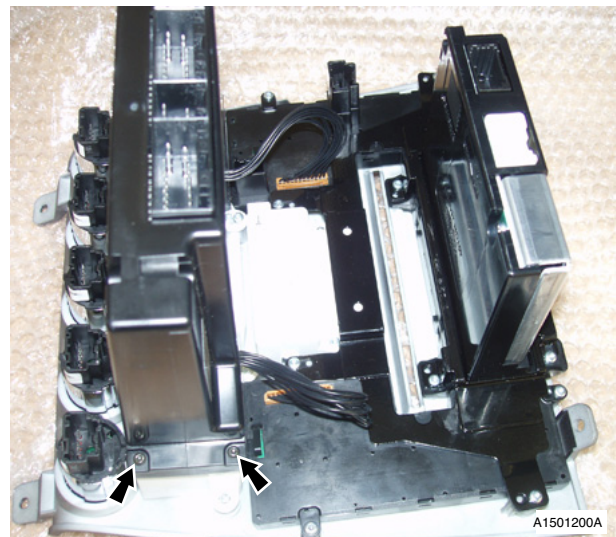

Fig. 2
8. Remove screws (x6) securing HVAC control unit (see Fig. 2).